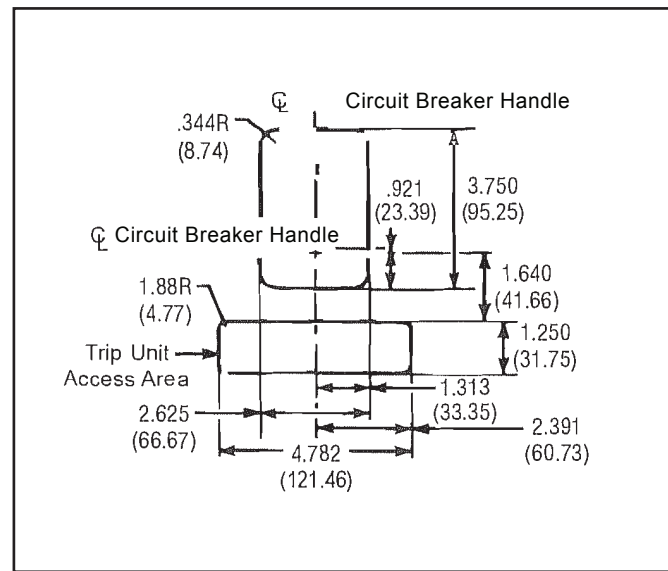
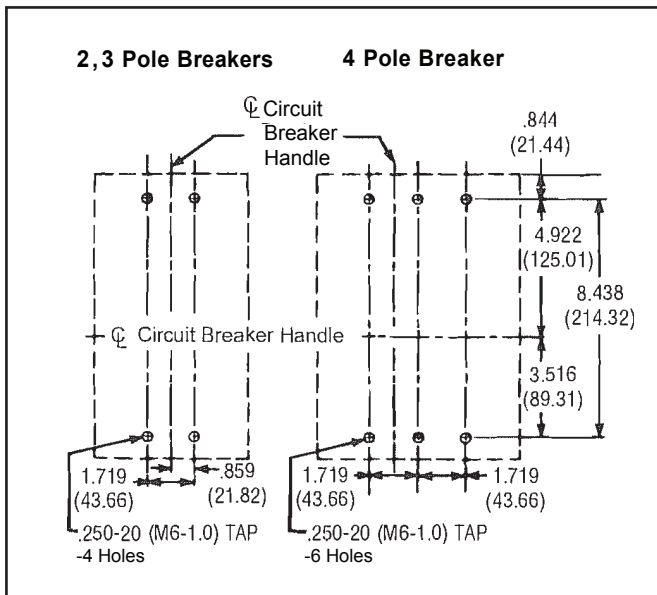

Figure 2-3 Circuit Breaker Escutcheon Cutout
Figure 2-2 Circuit Breaker Mounting Bolt Drilling Plans
a. For individual surface mounting, drill mounting panel using the drilling plan shown in Figure 2-2. For panelboard mounting, only load end support mounting holes are required. For deadfront cover applications, cut out cover to correct escutcheon dimensions, see Figure 2-3. Make sure accessory wiring is accessible when the circuit breaker is mounted.